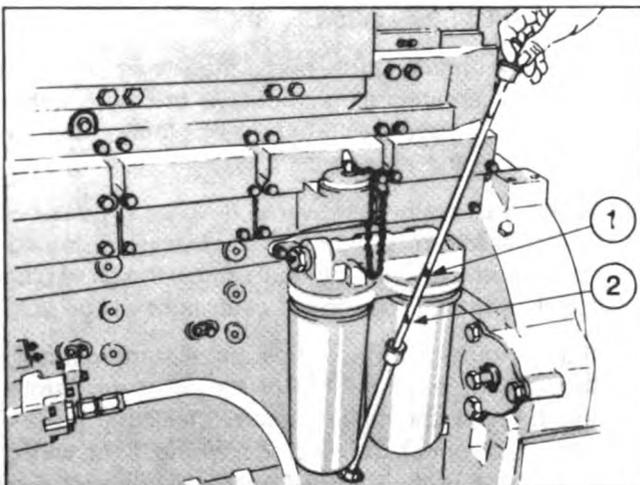

Fig. 1-8, (OM1005L). Checking engine oil level
A dipstick oil gauge is located on the side of the engine, Fig. 1-8. The dipstick has an "H" (high) (1) and "L" (low) (2) level mark to indicate lubricating oil supply. The dipstick must be kept with the oil pan, or engine, with which it was originally supplied. Cummins oil pans differ in capacity with different type installations and oil pan part numbers. Check the dipstick calibration. If in doubt, your Cummins Distributor